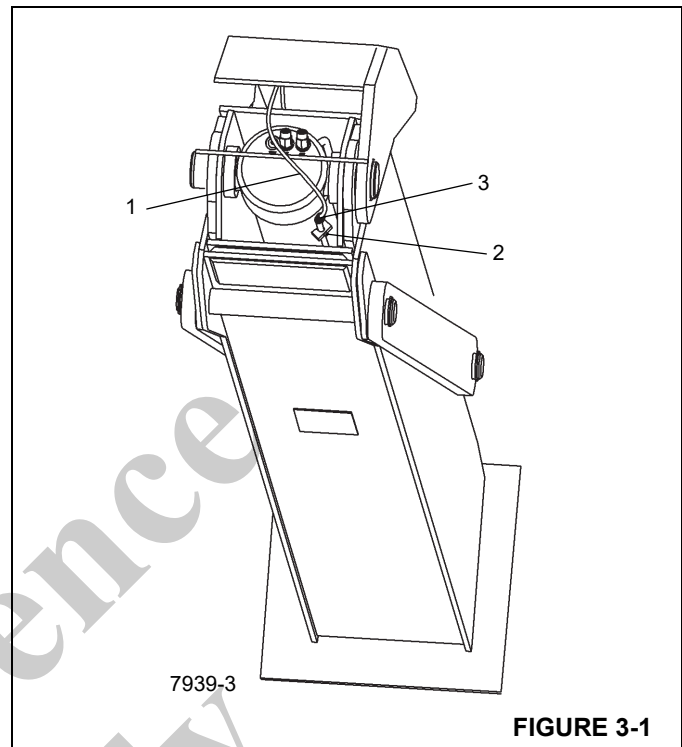

FIGURE 3-1
2. Disconnect electrical connector (1, Figure 3-1) at sensor.
3. Remove setscrews (2, Figure 3-1) securing sensor holding plate.
4. Slide sensor (3, Figure 3-1) out of sensor holding bracket.
2. Slide sensor (3, Figure 3-1) into holding bracket.
3. Using the two setscrews (2, Figure 3-1) and sensor holding bracket, secure sensor to the hydraulic cylinder.
4. Connect electrical connector (1, Figure 3-1) to sensor.